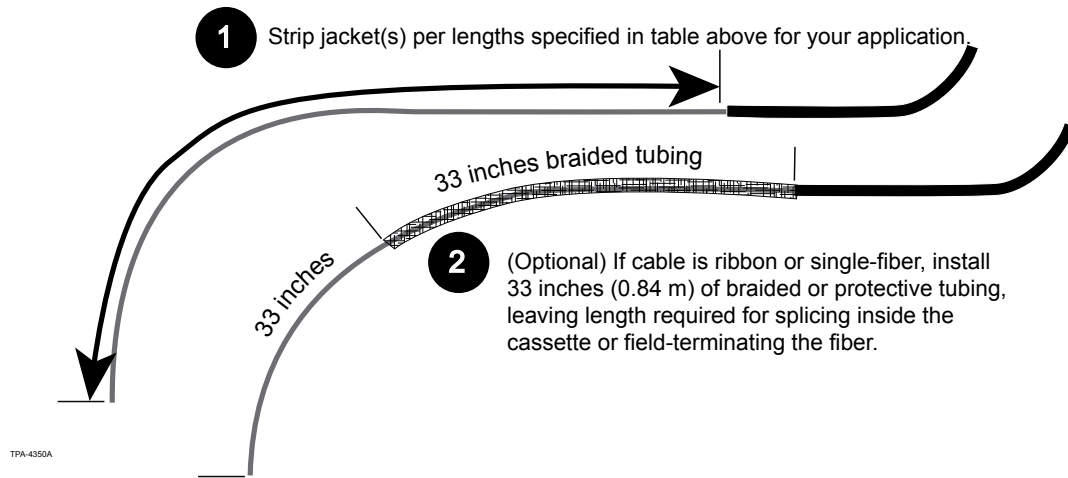

Figure 1
Step 1: Determine from which side the cable will enter the housing (Figure 1). Measure and mark the length specified in the table above from cable end and strip cable per instructions provided with the cable or per standard company practices. Then mark the subunit at the required length from the end of the cable. This mark denotes the point at which the fibers will enter the cassette.